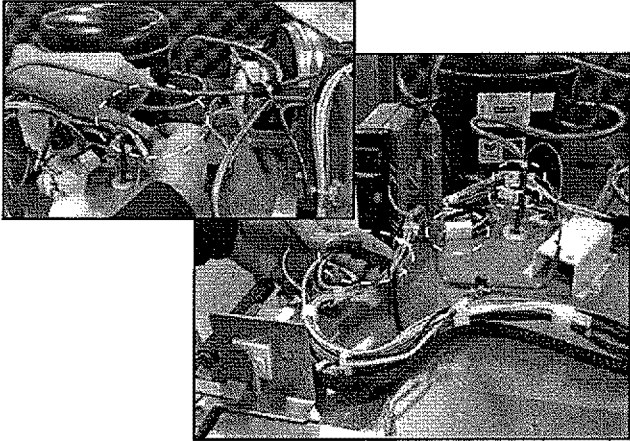

FIGURE 21
22. Connect all connectors, starting with the five connectors near the compressor side disconnected in step 6. See *Figure 21*.